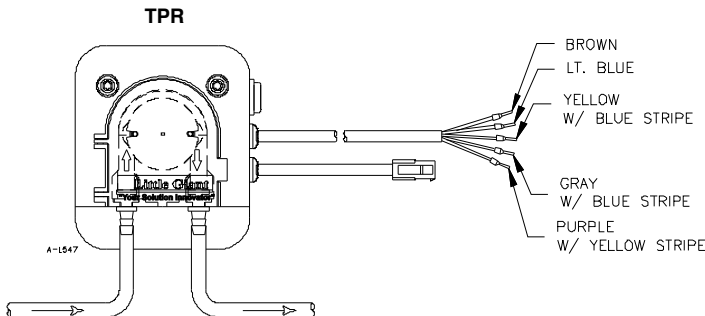

FIGURE 5
**C and NC** - When water rises, the circuit opens to turn off the compressor and prevents overflow by connecting the gray with the blue stripe wire and the yellow with the blue stripe wire. (Figure 5)
**C and NO** - When water rises, the circuit closes to activate a bell or alarm (not provided) by connecting the gray with the blue stripe wire and the purple with the yellow stripe wire (Figure 5).